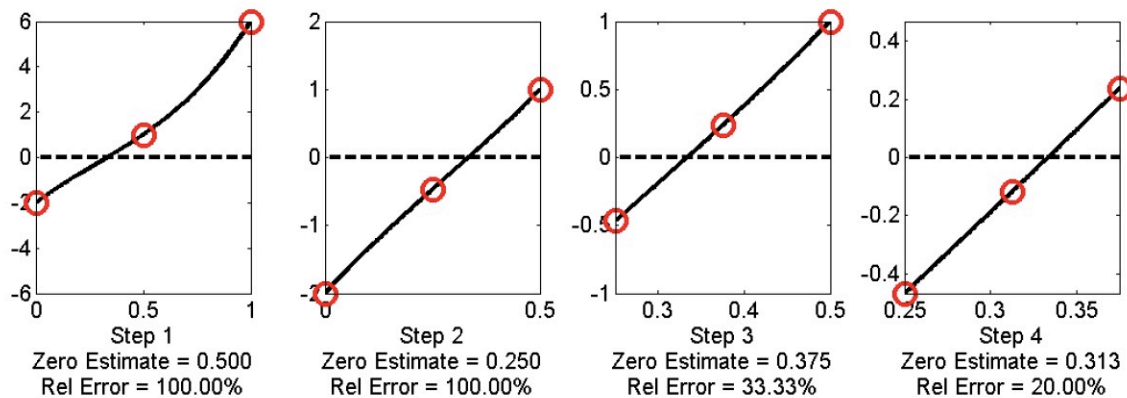

Figure 3: The bisection method used to find the root of $f(x) = 6x^3 - 5x^2 + 7x - 2$ in the interval $(0, 1)$.
The process is illustrated in Figure 3. In this figure, the bisection method is used to find the root of the function $f(x) = 6x^3 - 5x^2 + 7x - 2$. The root is determined to lie in the interval $[0, 1]$ and so these limits are chosen to begin the bisection method. The first step is to find the midpoint ($x = 0.5$). The sign of the function values at the end points and the midpoint are found. Since $f(0)$ is negative, while $f(0.5)$ and $f(1)$ are positive, the next interval is chosen to be $(0, 0.5)$. This interval is plotted, and the process is repeated. The first four steps of the Bisection Method are shown. The root estimate can be seen to converge toward the actual value of $\frac{1}{3}$.
2. The graphical output you should display is similar to that shown in Figure 3. At the very least, it should plot the three points $(a, f(a))$, $(c, f(c))$, and $(b, f(b))$ at each iteration and pause for a short time between the iterations.